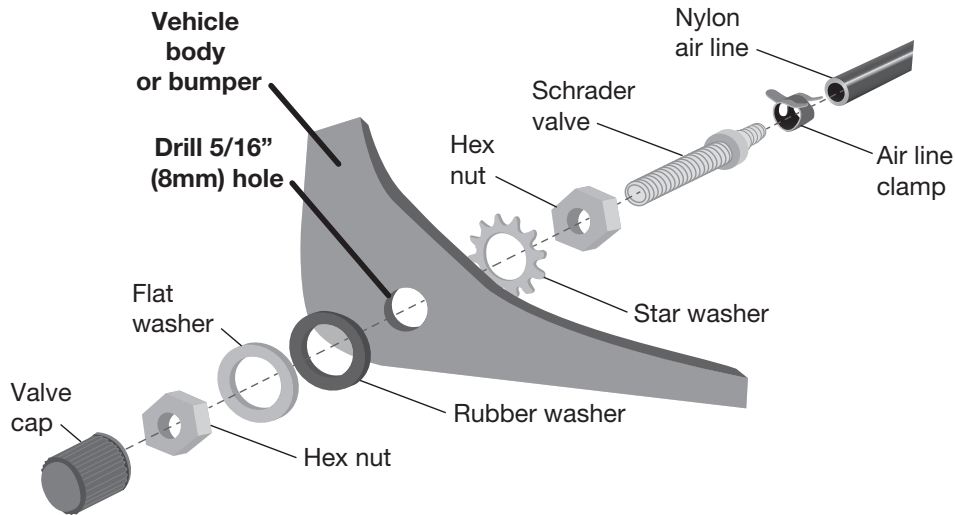

Fig. 16
- Drill a 5/16" (8mm) hole for the Schrader valve (J) and mount as shown (Fig. 16). Install the air line on the Schrader valve first. The rubber washer (F) serves as an outside weather seal.